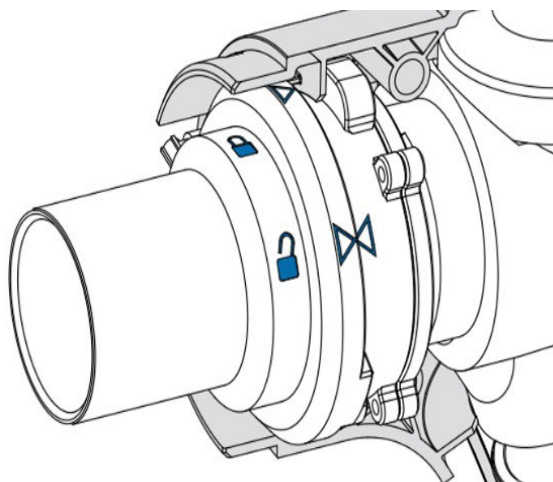

Figure 9 - Flowhead subject end in the unlock position.
4. Turn the flowhead subject end anticlockwise to the unlock position and remove, giving access to the Lilly Screen (Figure 9).